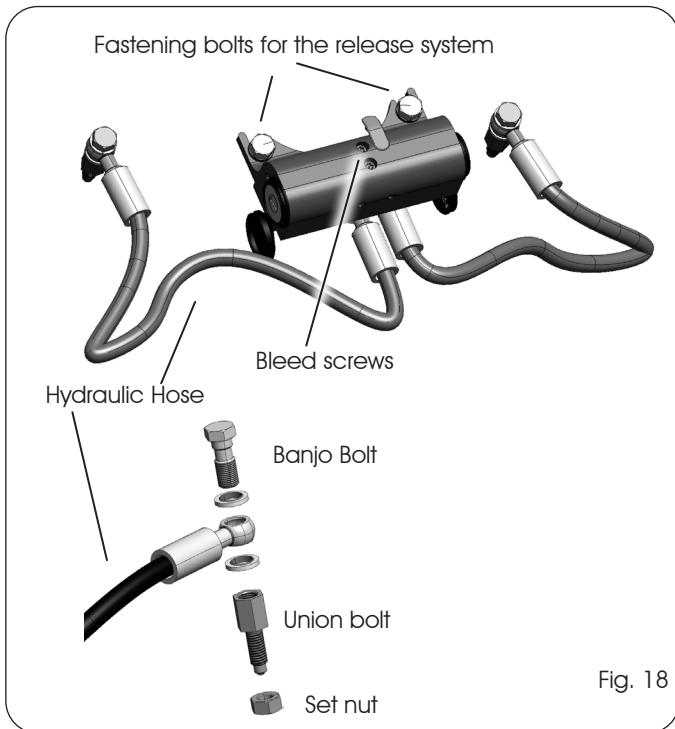

Fig. 18
3. Spin the set nut all the way onto the union bolt (Fig. 18)